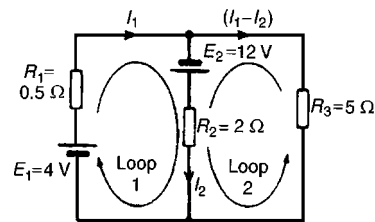

Figure 13.8
1. Currents, and their directions are shown labelled in Fig. 13.8 following Kirchoff's current law. It is usual, although not essential, to follow conventional current flow with current flowing from the positive terminal of the source
2. The network is divided into two loops as shown in Fig. 13.8. Applying Kirchoff's voltage law gives: For loop 1: